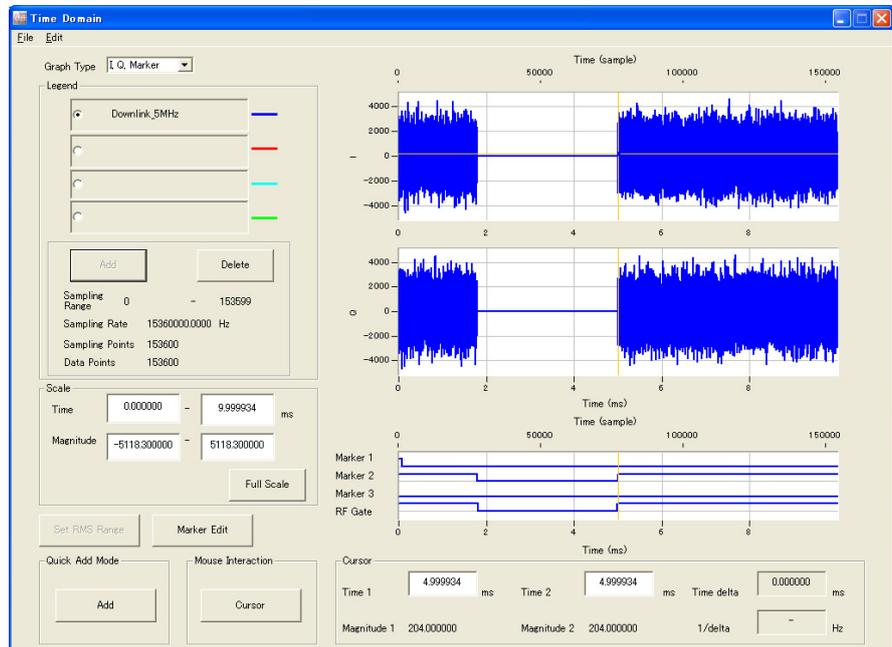

Figure 3.5-5 Time Domain Screen
- (1) Generate a waveform pattern menu by executing “Calculation”.
- (2) When **Time Domain** is clicked in the **Simulation** menu or  is clicked, the Time Domain graph screen shown in Figure 3.5-5 is displayed, along with a trace of the generated waveform pattern.